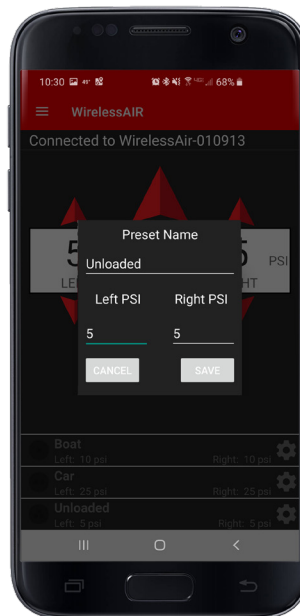

fig. F.3
1. The app must be connected to the manifold to change presets (Fig. F.3). Presets are stored on the manifold, so changes made in the app will also affect the wireless controller and vice versa.